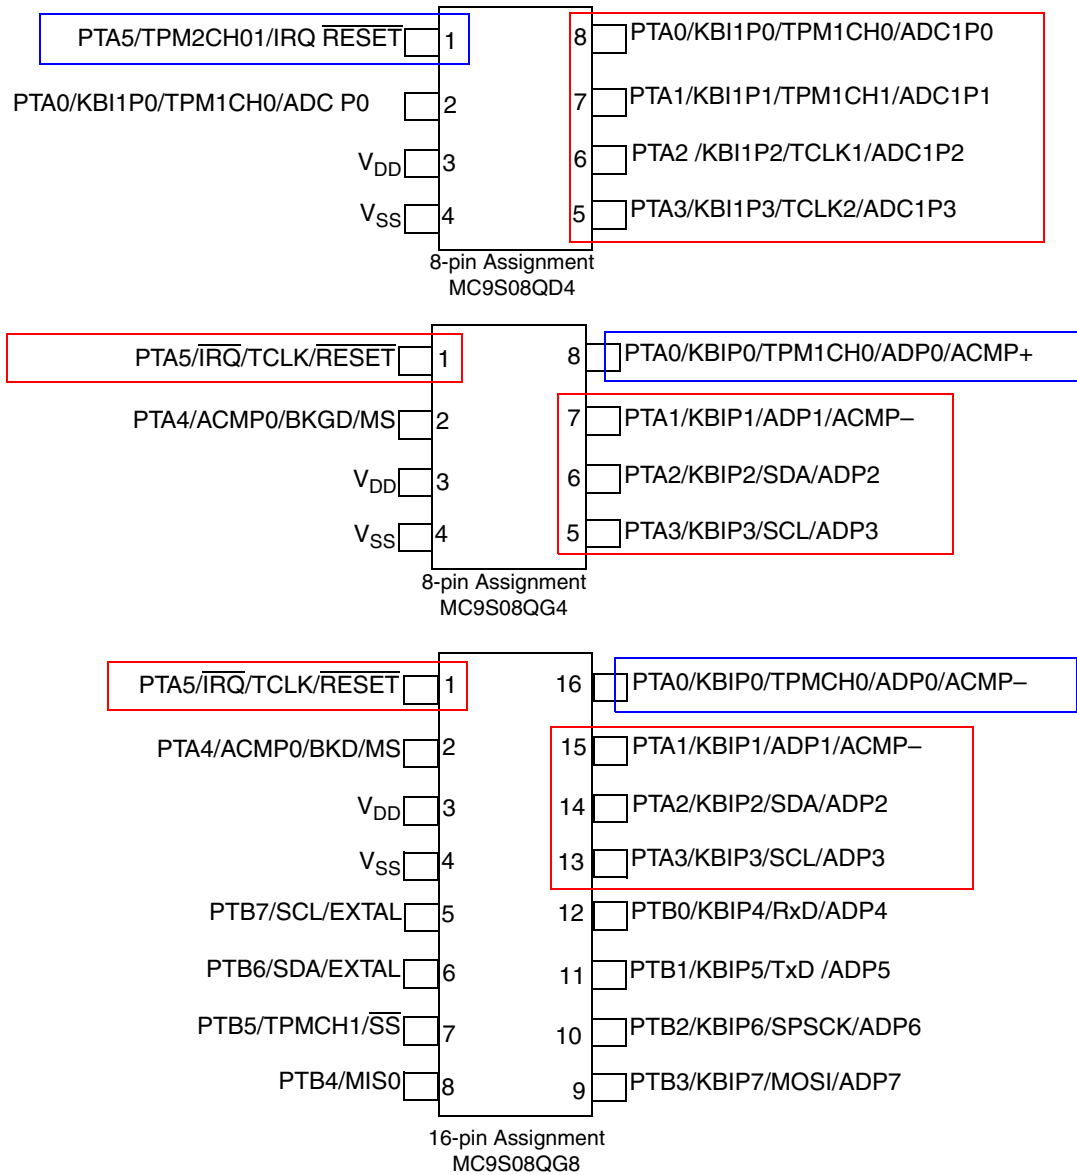

Figure 11. Comparison of the MC9S08QD4, MC9S08QG4, and MC9S08QG8 Devices
- The values for coil A and coil B are the same, therefore Table 1 does not change. The values for port A and the pinout change. Replace PTA1, PTA2, PTA3 and PTA5, for PTA0, PTA1, PTA2, and PTA3. See Figure 11. The values previously used for port A now change: